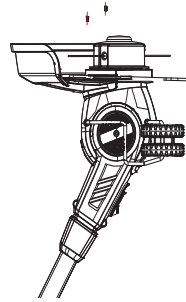

Fig. 3
3. Fix them by two accessory screws in the safety guard. (Fig. 3)